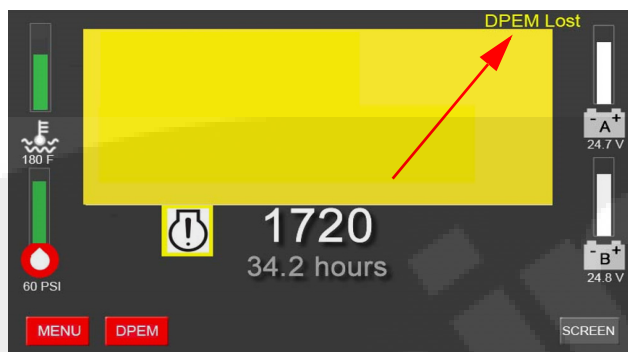

Figure 2-8 DPEM lost fault screen
- **Communications have been lost with the Digital Panel Expansion Module (DPEM)**. As shown in Figure 2-8, "DPEM Lost" will appear on the FPDP User Interface Screen if communications between the FPDP and DPEM are compromised.